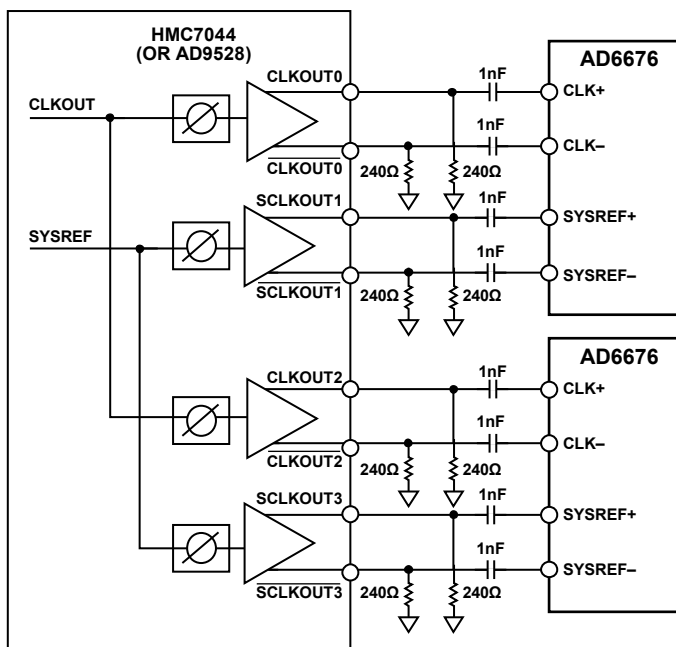

Figure 127. Example of Multichip Synchronization of the AD6676 Using the HMC7044 or the AD9528
- Figure 127 shows how the HMC7044 (or the AD9528) can be used for mulchip synchronization. The HMC7044 is best suited for delivering a low phase noise RF clock source for each AD6676 (refer to Figure 135). In addition, its ability to individually control the delays of both the CLK and SYSREF signals to each AD6676 device allows compensation of PCB skew delays.